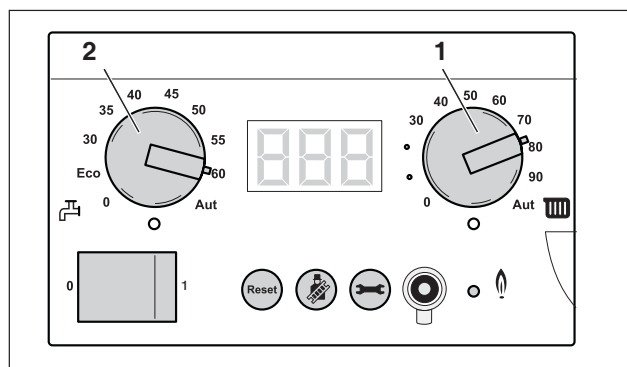

fig. 135 BC10
- Set the maximum CH flow temperature dial (fig. 135, **item 1**) and the DHW temperature dial (fig. 135, **item 2**) to the maximum temperatures.
- Set the maximum CH flow temperature dial (fig. 135, **item 1**) and the DHW temperature dial (fig. 135, **item 2**) to the required temperatures.